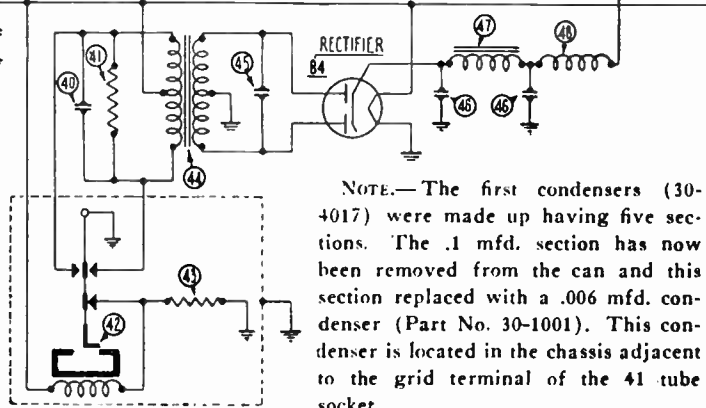

Fig. 1
① on Figs. 1 and 2
② on Figs. 1 and 2
Numbers on Figs. 1 and 2	Resistance*** Ohms
Numbers on Figs. 1 and 2